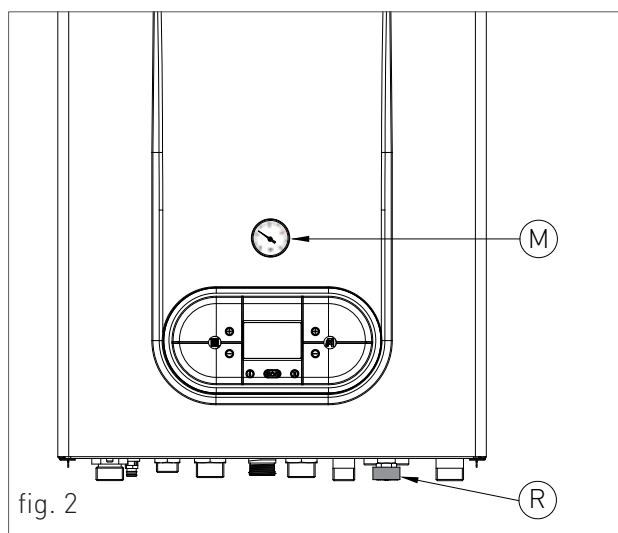
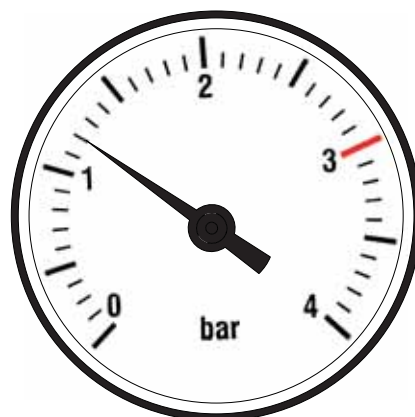

fig. 2
fig. 4
For machine positioning, proceed as follows (see fig. 2):
4. open the feeding tap "R" (fig. 2);
6. use pressure gauge "M" (fig. 2) to make sure that the system pressure reaches 1.2 bar (fig. 4);
7. after performing this operation, make sure that the loading tap "R" (fig. 2) is properly closed.
10. if after performing these operations you observe a decrease of the water pressure inside the system, open once again the loading tap "R" until the pressure gauge indicates the value of 1.2 bar (fig. 4)